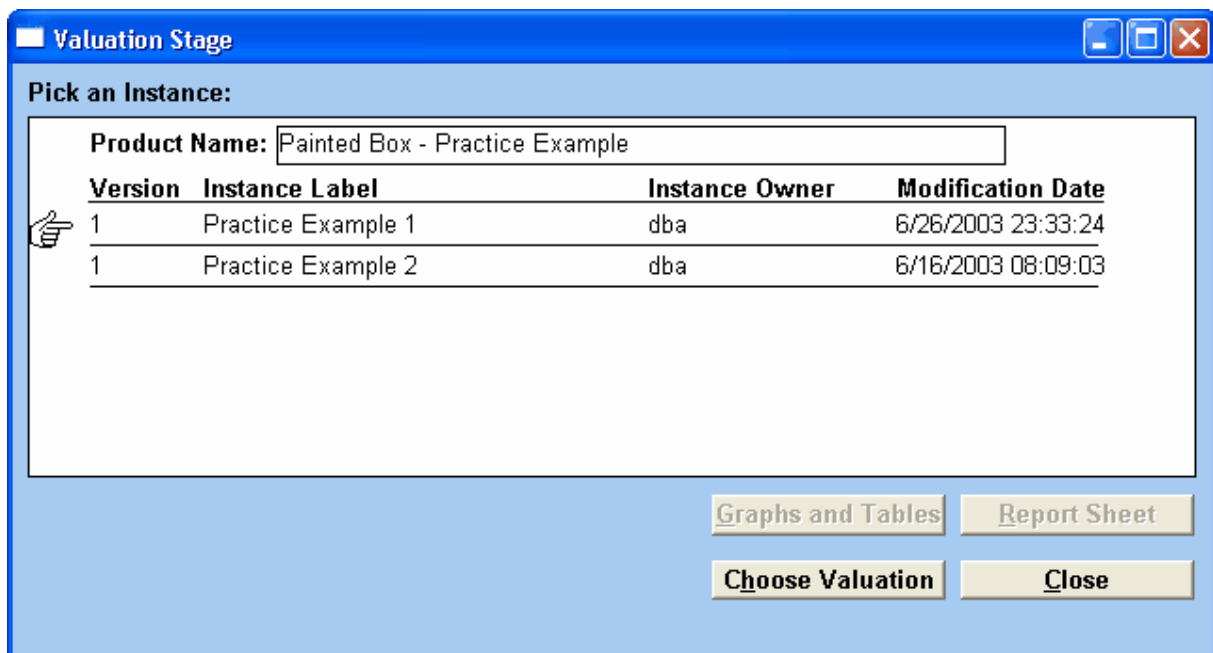

Figure 14: Opening Screen for the Valuation of the product "Painted Box - Practice Example."
4. If you worked through the practice example in the previous section, then a window similar to Figure 14 will appear.
9. This will take you back to the screen in Figure 14, except now the buttons **Graphs and Tables** and **Report Sheet** will be live (and black) unlike earlier when they were inactive and grayed.